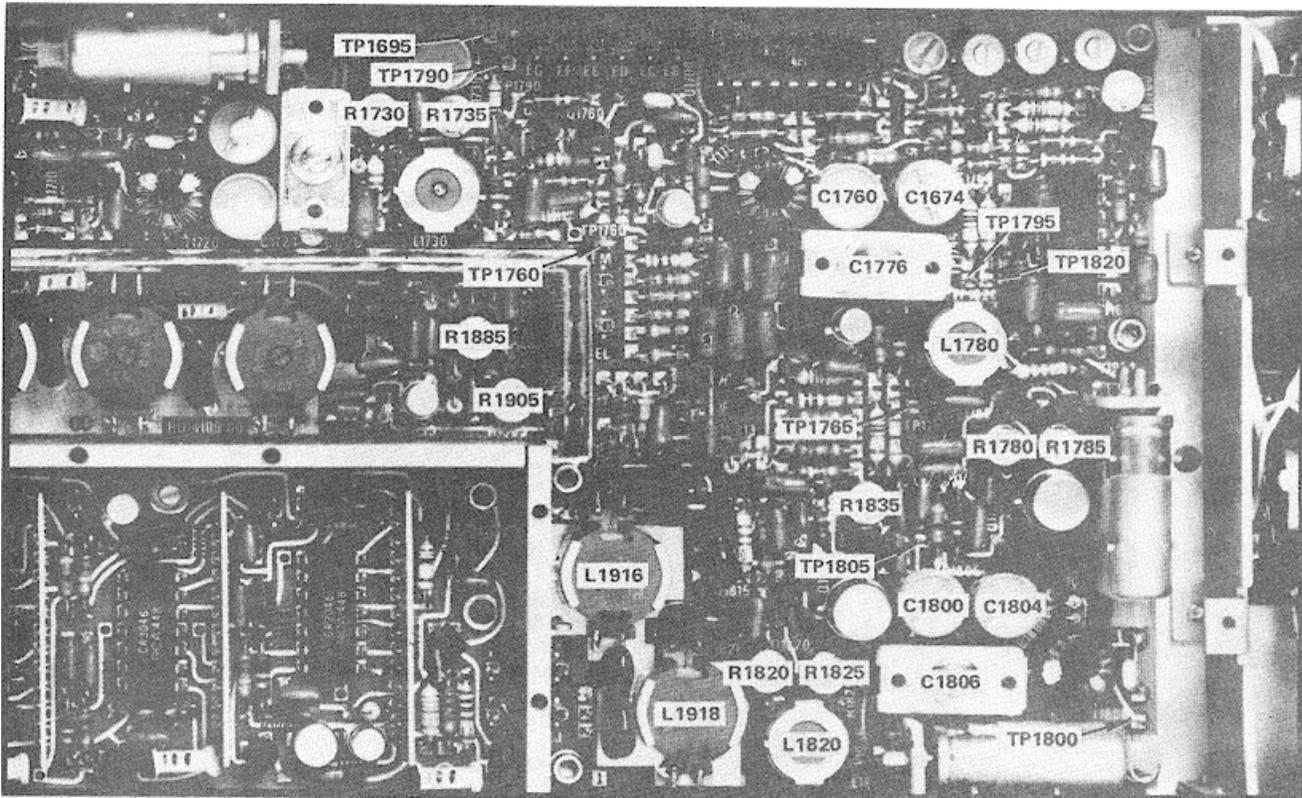

Figure 4-15.B. Test points and adjustments on the Variable Resolution board.
-----3. Install 10 kΩ swamping resistors (Fig. across TP1720-TP1725, TP1760-TP1765, and TP TP1805 (Fig. 4-15).